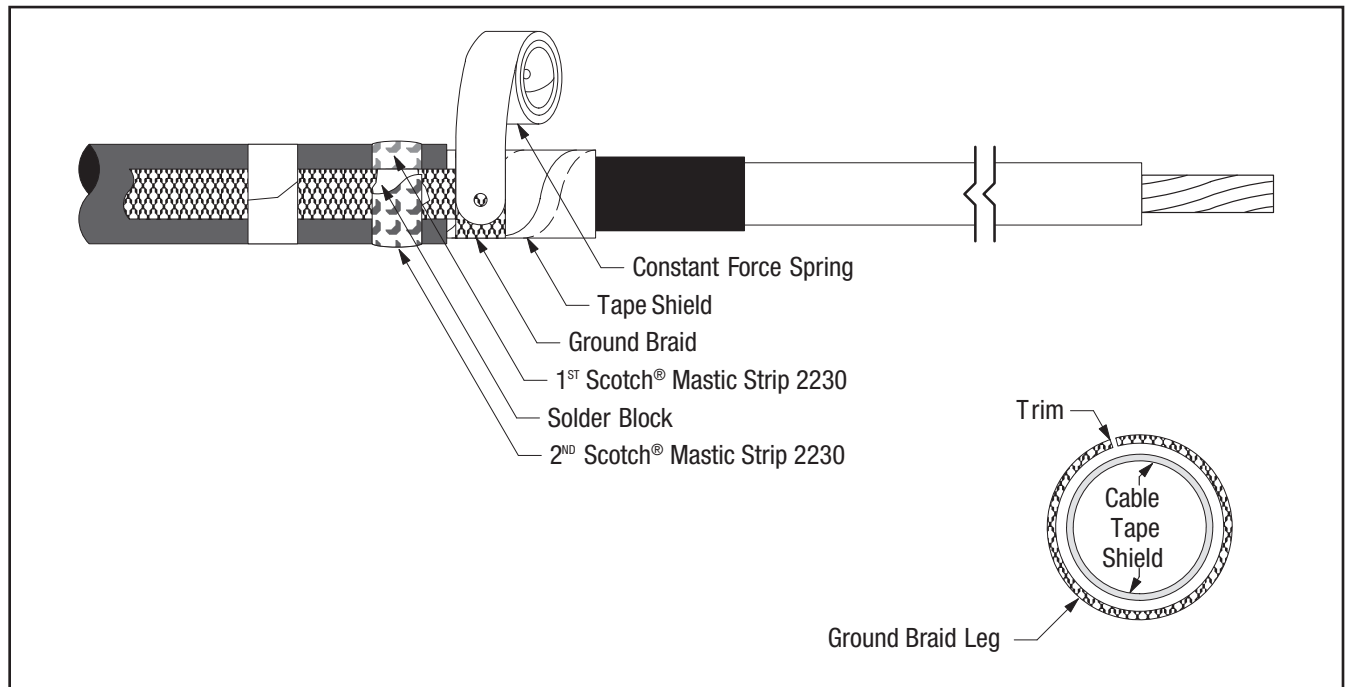

Figure 4
- 3.3 Wrap ground braid around cable tape shield one complete wrap, trim excess to prevent overlap and secure in place with constant force spring. Wrap spring in same direction as ground braid (Figure 4). Cinch (tighten) the spring after wrapping the final winding.
- 3.4 Select second Scotch® Mastic Strip 2230 from kit and remove white release liners. Apply a second single wrap of mastic over solder block on ground braid and previously applied mastic (Figure 4). Cut off excess.